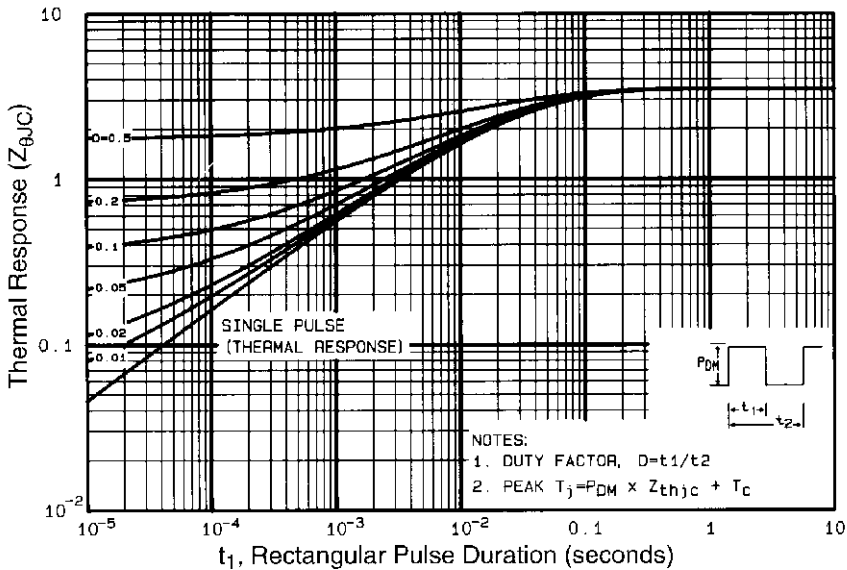

Fig 11. Maximum Effective Transient Thermal Impedance, Junction-to-Case
- ① Repetitive rating; pulse width limited by max. junction temperature. (See fig. 11)
- ② $V_{DD} = 25V$, starting $T_J = 25^\circ\text{C}$, $L = 548\mu H$